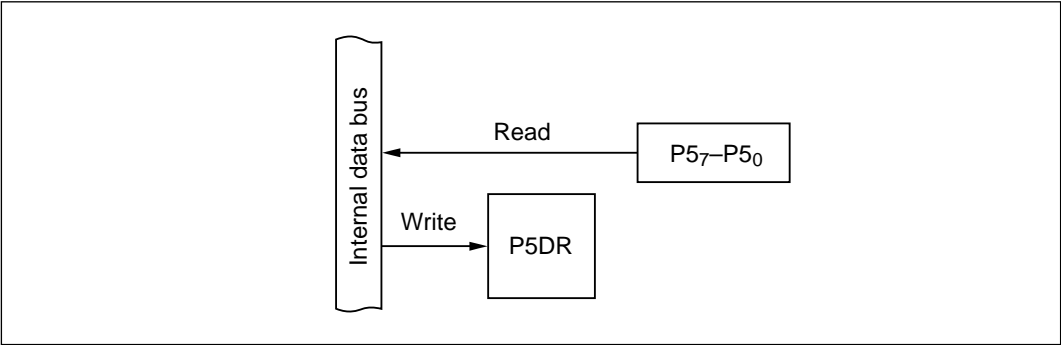

Figure 9-29 Input Port (Modes 1 to 7)
- (1) **Input Port (Modes 1 to 7):** Figure 9-29 shows a block diagram illustrating the general-purpose input function. Table 9-21 indicates register read/write data. Values written in the port 5 data register (P5DR) have no effect on general-purpose input lines. When read, P5DR returns the value at the pin.